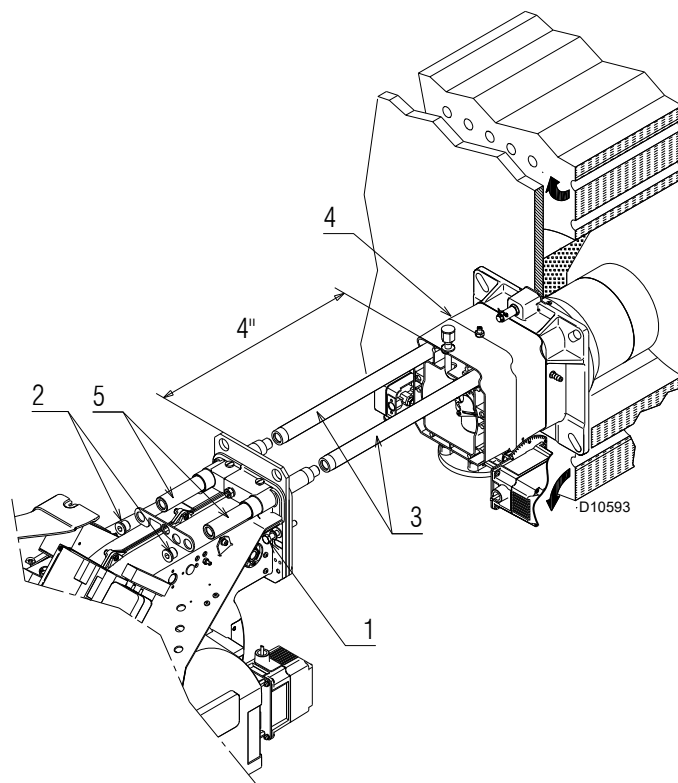

Fig. 17
- push the burner on the sliding bars 3) at approximately 4" from the pipe coupling 4) - burner in the position shown in Fig. 17;